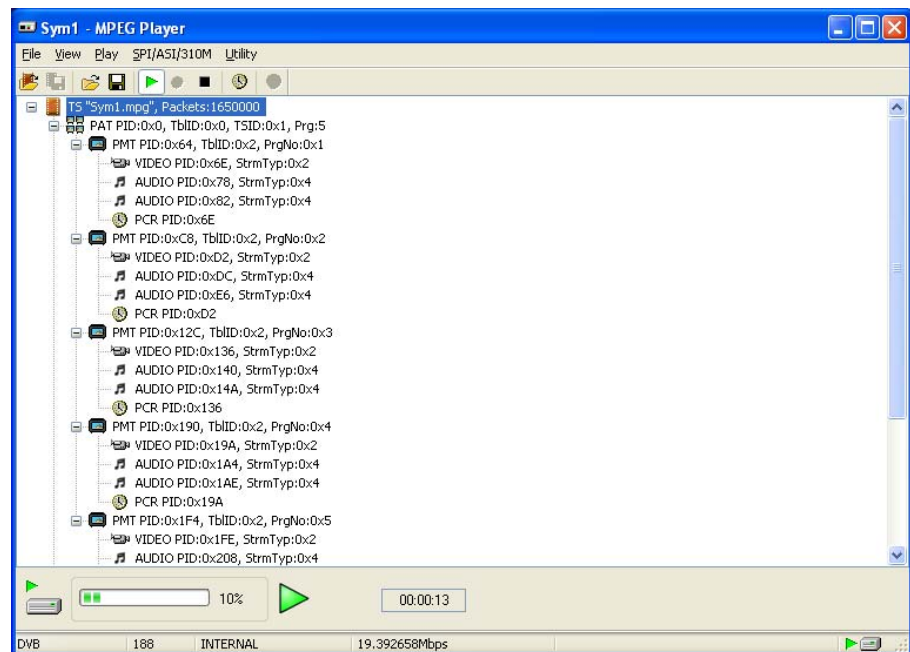

Figure 2–10: MPEG Player playing a SMPTE310M transport stream
33. Verify that the TS rate displayed at the bottom of the MPEG Player window displays the SMPTE310M rate of 19.392658 Mbps (see Figure 2–10).